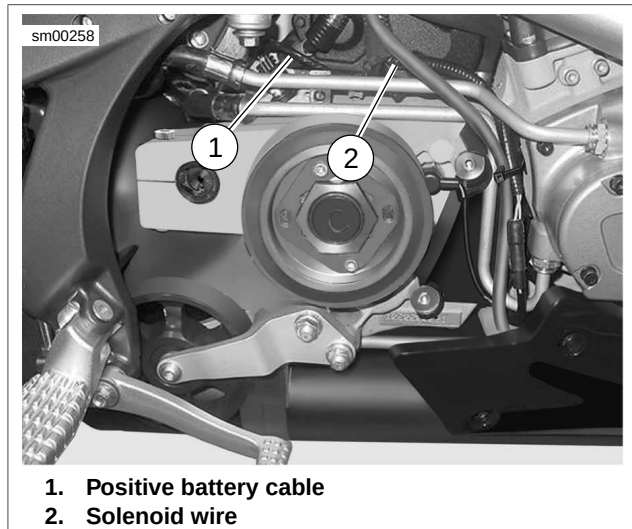

Figure 5-14. Starter Wires (Protective Boot Not Shown)
3. See Figure 5-14. Connect wiring to starter.
- a. Connect solenoid wire (3).
- b. Attach positive battery cable (2) to stud with fastener and washer (1) (metric).